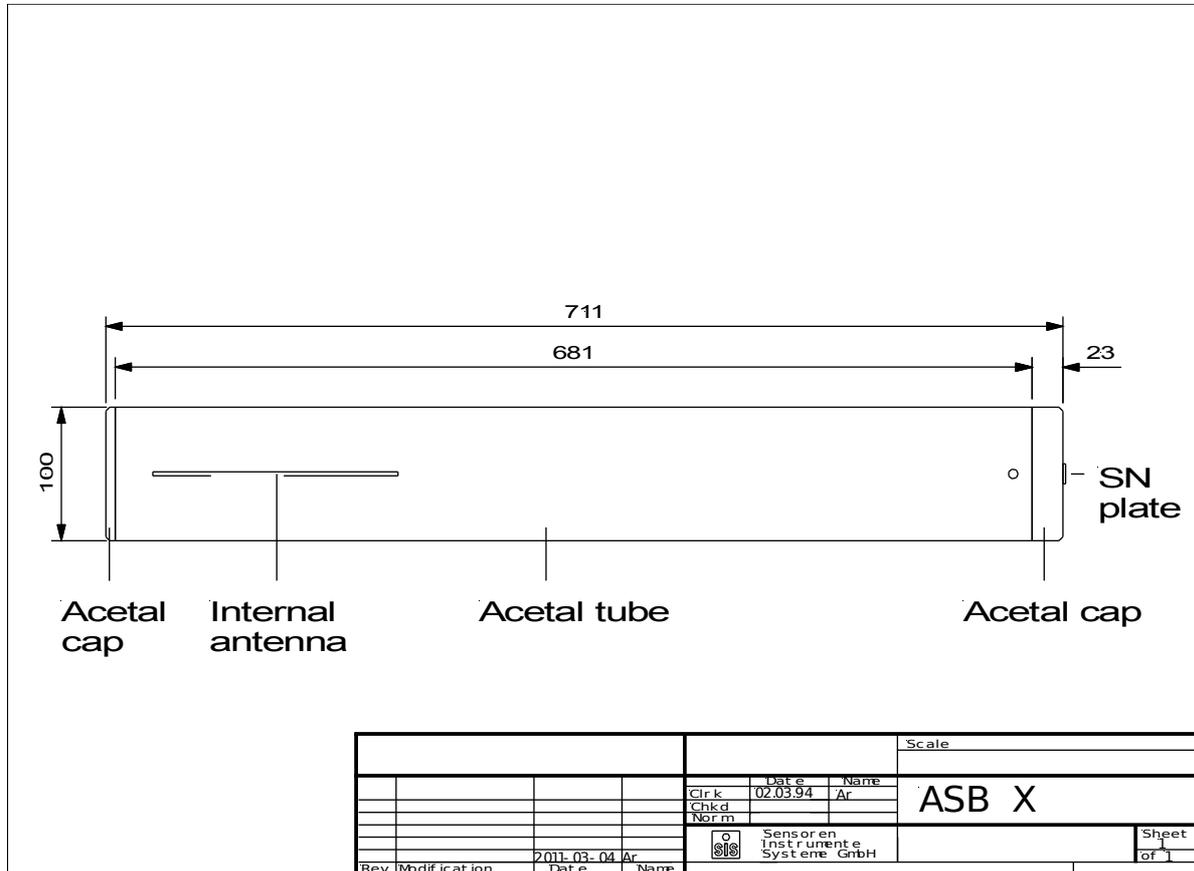

Figure 1: ASB X Dimensions
- Figure 1: ASB X Dimensions.....2**